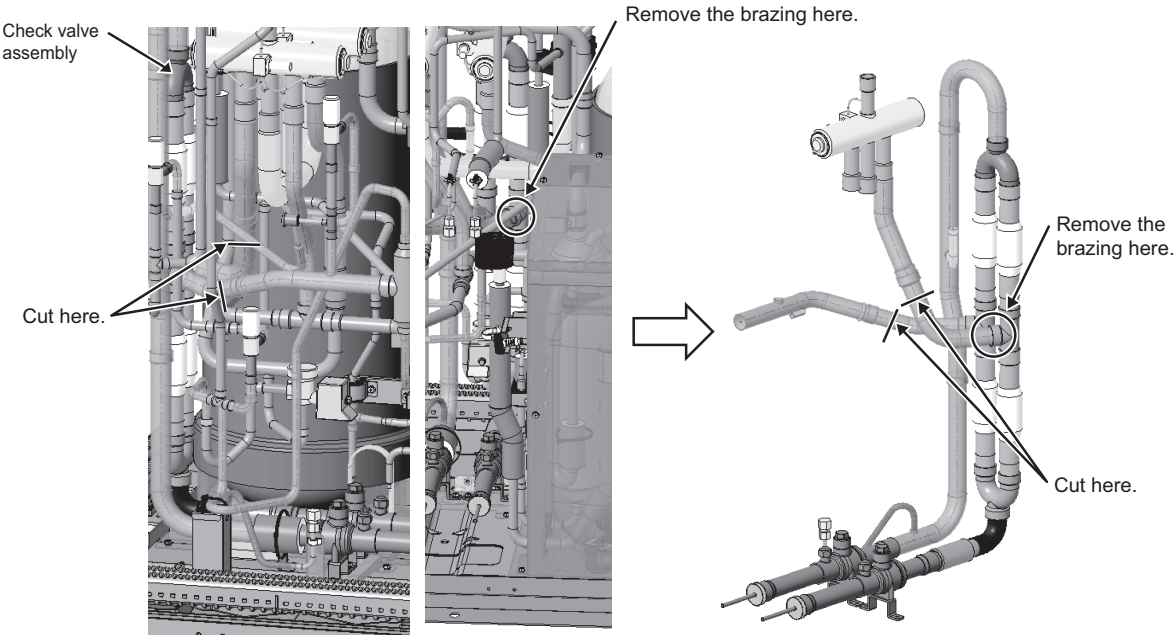

Fig. 3
(3) Cut the pipes located before the check valve assembly joints using a pipe cutter or a similar tool, as shown in the figure below. After cutting the pipe, remove the brazing from the pipe. (Two points to cut and one area to remove brazing: Fig. 3)